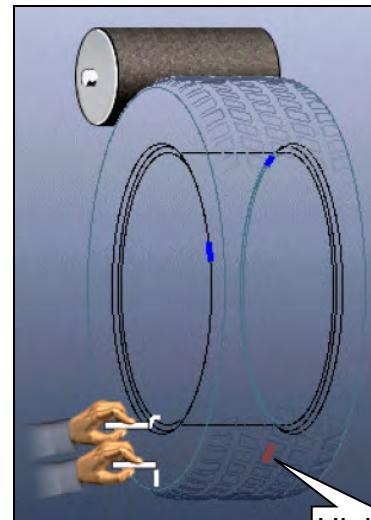

Figure 4
1. Mark the tire at the high spot of RFV, and then at the same location on the wheel (see Figure 4).